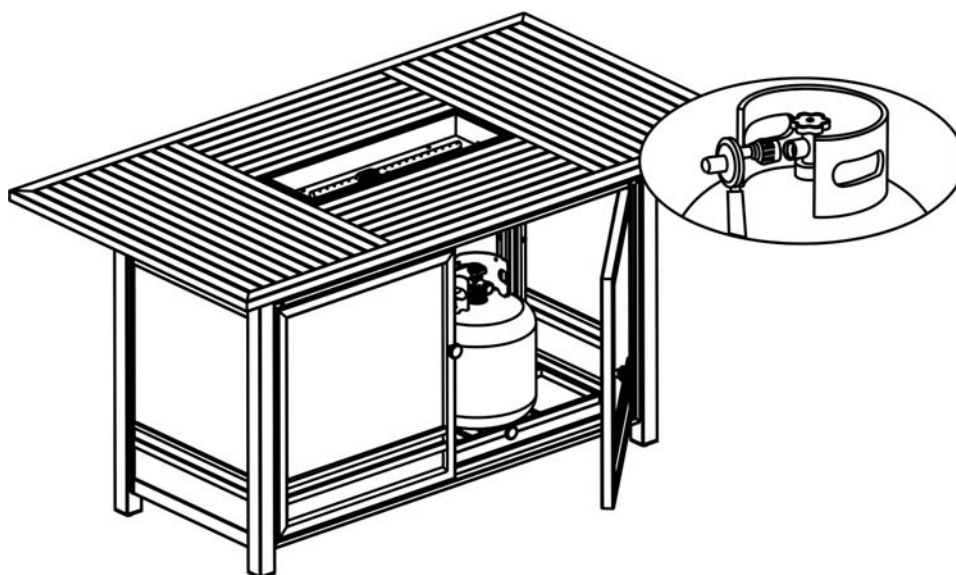

Figure 13
14. Slide the tank drawer out and place the LP tank in the drawer. Connect the regulator as shown in Figure 13. Turn the black handle clockwise to tighten. Turn the handle counterclockwise to remove. The hose must point down. Check that the valve is turned all the way clockwise to the "OFF" position. Open the tank valve. Apply a solution of soapy water to the tank-regulator connection and to the valve-hose connection to check for leaks. If soap bubbles continue to form, the connection has a leak. If a leak is found, close the tank valve and tighten all connections.